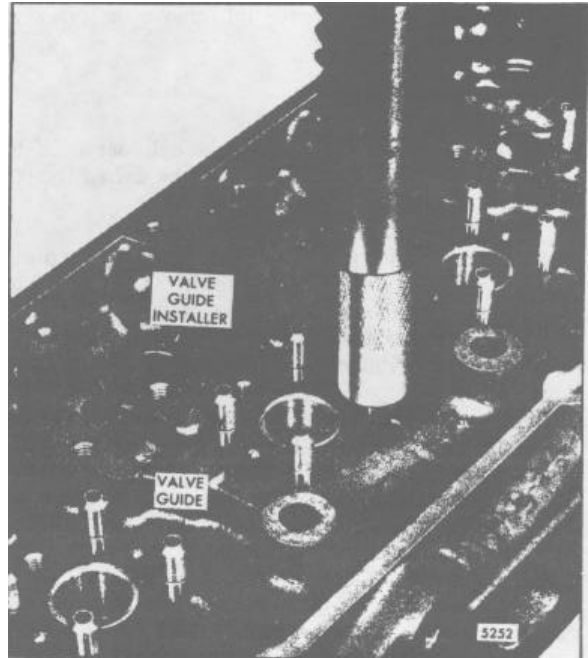

Fig. 6. - Installing Valve Guide
2. Position the valve guide squarely in the bore in the cylinder head and press the installing tool gently to start the guide in place (Fig. 6). Then press the guide in until the tool contacts the cylinder head (the bottom of the counterbore in the four valve cylinder head).